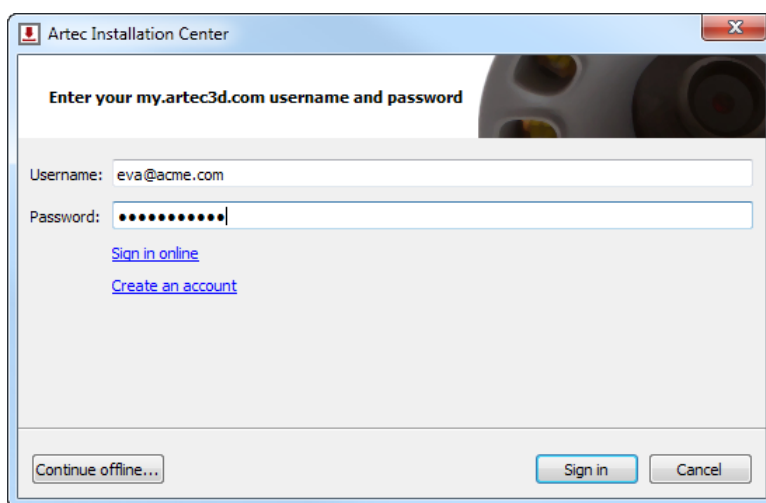

Figure 4.2: Authentication for Artec Installation Center
2. After downloading, open the folder that contains the executable and run it. Follow the instructions on the installation screens. Once Artec Installation Center is installed, you will see a dialog requesting your email address and password. Use your *my.artec3d* account to log in as Figure 4.2 shows.
If you have yet to install Artec Installation Center, a login dialog will appear, as Figure 4.2 shows. If you are not connected to the Internet, consult Offline Activation regarding offline activation of Artec Studio.